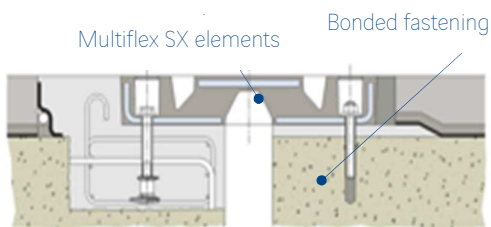
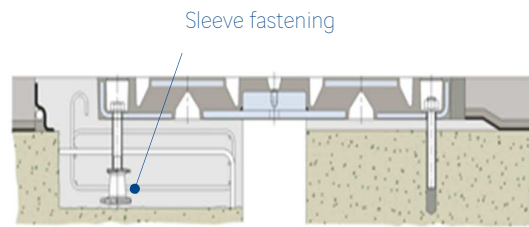

Figure 1 : 2D image of simple module joint
Figure 2 : 2D image of double module joint
Single module joints: with this type of joint, the gap is bridged by a central insert supported by two elastomer strips absorbing the applied deformations. This design covers the movement range up to 180 mm (figure 1).
- The movement is taken up on either side by modules designed in the same way as a single module joint (figure 1). This design covers the range of movements from 220mm to 350mm (figure 2)